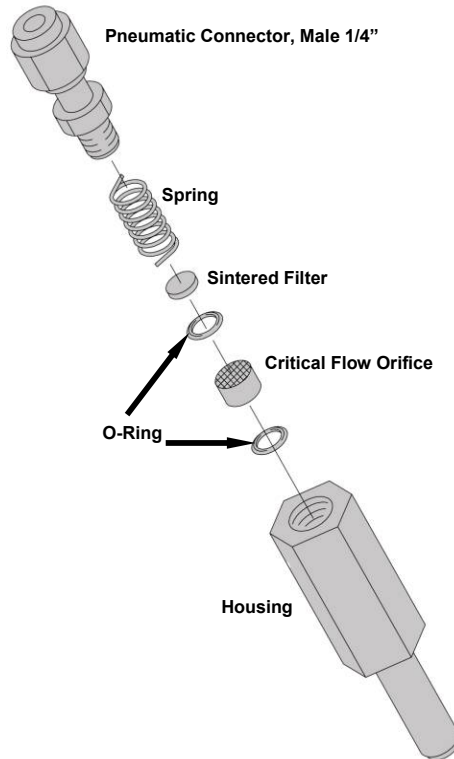

Figure 11-5: Critical Flow Orifice Assembly (Instruments without IZS)
5. The inlet end of the assembly is the straight ¼" tube to 1/8" male NPT fitting. Remove the fitting and the components as shown in the exploded view in the Figure 11-5.